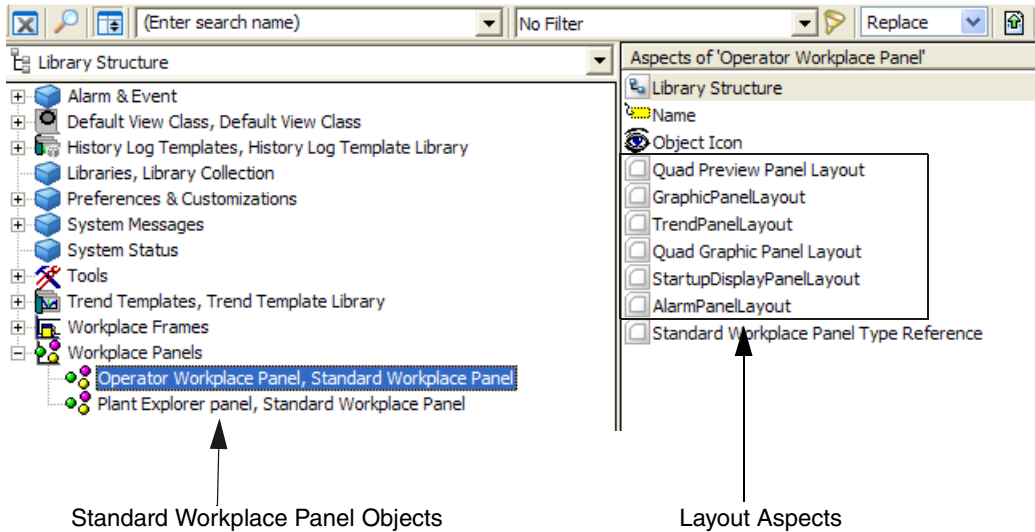

Figure 24. Workplace Panels
You can select panel to your workplace in the Workplace Layout aspect, see Workplace Layout on page 27 and Figure 11. Existing panels are located in the Library Structure and are displayed in Figure 24.
- Open the **StartupDisplayPanelLayout** aspect from **Library Structure > Workplace Panels > Operator Workplace Panel** (see Figure 24). Type the